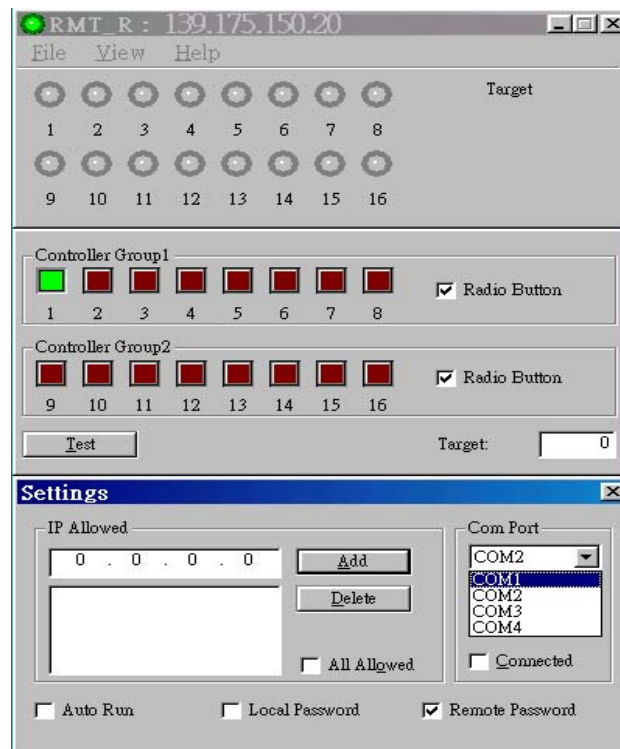

Fig 5
- d) If the first LED of GSE-572B Branch is not “ON”, it probably is because you didn't connect GSE-615 with computer or you choose wrong COM Port. Please use right COM Port then press “connected” to test if the connection of GSE-615 control card is correct as Fig. 5 shows.